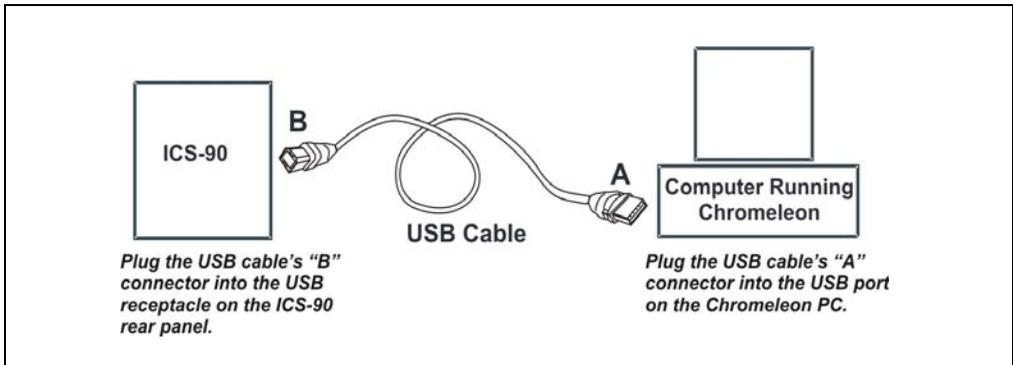

Figure B-3. Example Connections: One ICS-90 Connected to the Computer
2. Connect the cable between the ICS-90 and computer as shown in Figure B-3.